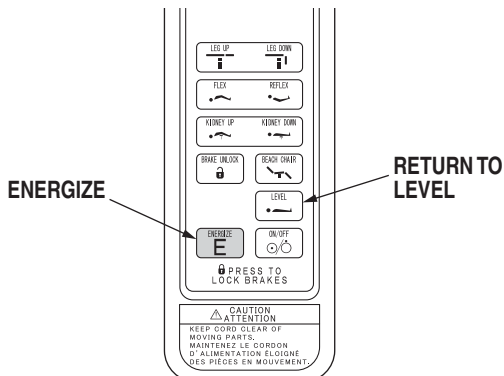

Figure 2-14. Return to Level
i. Return To Level To return the table top to a level position, press the ENERGIZE button and then the LEVEL button (figure 2-14).